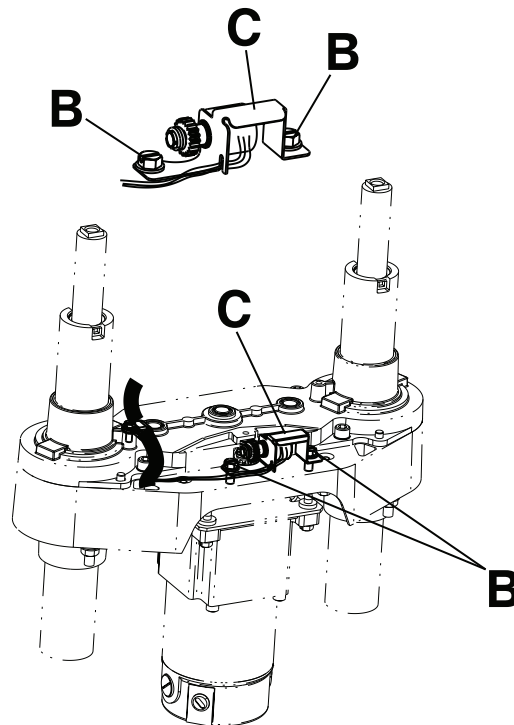

Figure 9 – Lift potentiometer housing assembly
7. Using wire cutters, cut the cable tie (A) that secures the potentiometer cable to the coil cord (Figure 9).
12. Using a 3/8" combination wrench, remove the two bolts (B) that secure the potentiometer housing (C) to the lift housing.